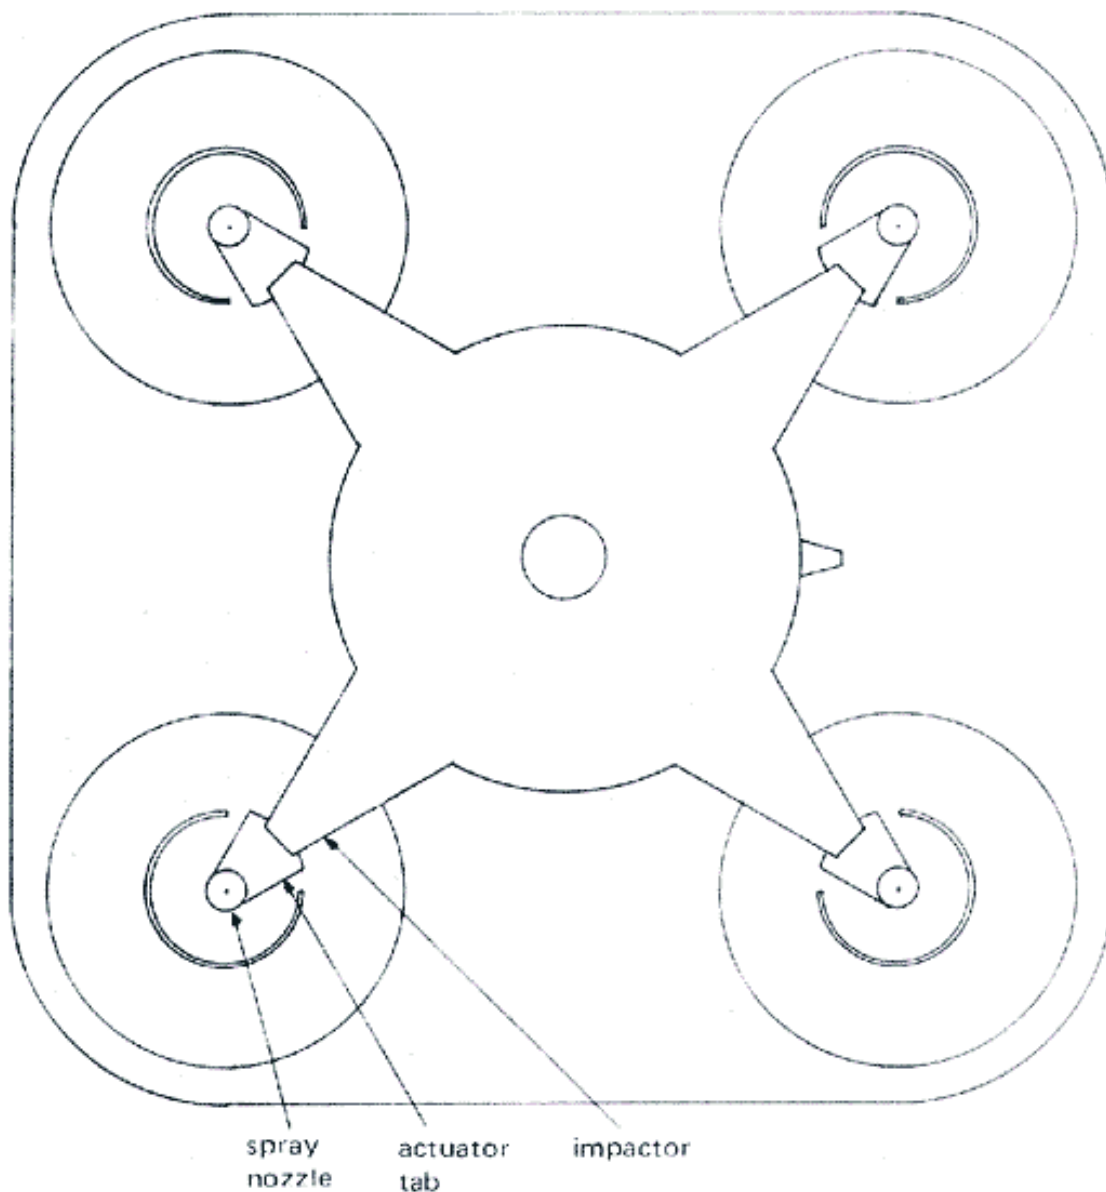

Figure 3
The next test is functional testing and includes the aerosol cans. THIS TESTING IS PERFORMED WITH THE AEROSOL CAN SHIPPING CAPS ON. Turn the cans upside down and place the disc shaped lead weights in the bottom of each can. Turn off the alarm system. Insert the aerosol cans into the guide tubes upside down (shipping cap pointing downward). Push the cans with lead weights up into the guide tubes until the cans lock into position. Rotate the impactor into the set position as shown in Figure 3. Repeat the test as done in the previous paragraph. This time a can should drop and the shipping cap should strike the impactor. Repeat the test three more times to see that every can drops. Push the cans back to their lock position and move switch (2) to ON. Repeat the test and note that all four cans drop consecutively on a single alarm activation. These tests may be repeated several times to assure proper operation. Upon completion of the tests rotate the impactor to remove the aerosol cans.
Remove the shipping cap from each of the four cans. During this next step be careful not to push on the actuator tab on the aerosol can. Carefully insert each aerosol can with lead weight into each guide tube until it locks in position. Rotate the can and the impactor until they are properly aligned as shown in Figure 3. Your Repulsar IV is now operational.
If in the future you wish to change the time setting it is not necessary to remove the cans. Just move the upper switch (1) to off. This disables the solenoids. As a further precaution you may wish to rotate the impactor part way out of position. The new time delay setting can now be checked by noting the duration of the warning horn. When resetting is complete slide the upper switch to on and rotate the impactor to its alignment position as shown in Figure 3.